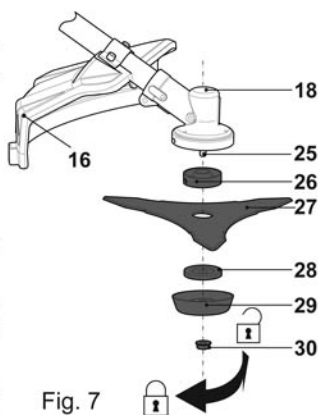

Fig. 7
- > Screw the flange nut in the indicated direction of rotation, using the multi tool [39] (Fig. 7).